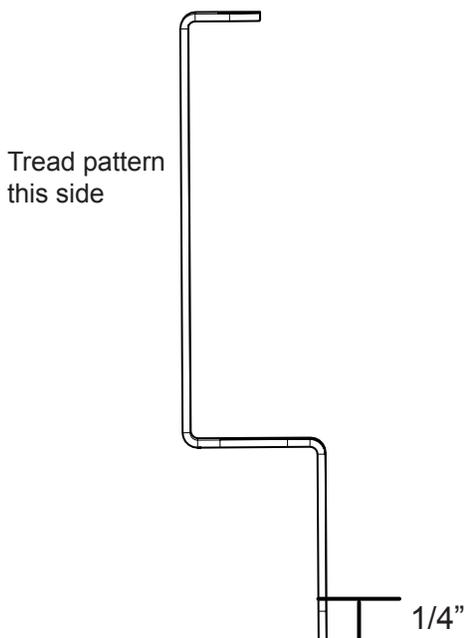

Figure 4: Measure 1/4" on the bottom edge.
10. On the bottom edge of the cover, measure and mark 1/4" up from the bottom edge (Figure 4).